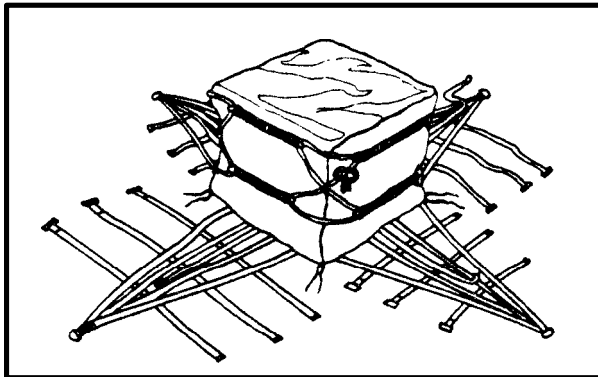

Figure 8-3. Securing the Cover with Lacing Cord
**d. Closing the Cover.** Fold the panels of the canvas/nylon cover over the top of the load. Fold any excess cover material under the top flap. Using lacing cord or Type III nylon cord, secure the cover at each corner by running the cord through the lacing loops in a figure-eight design (Figure 8-3). Tie the cord ends with a bow knot and secure. The purpose of the cord is to tighten the cover around the load so that small items cannot fall out.